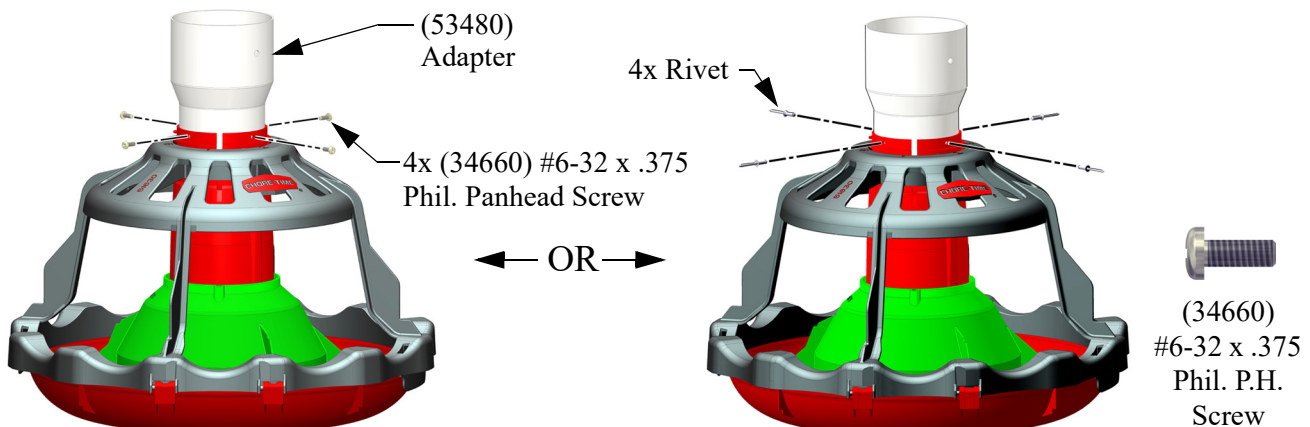

Figure 6. LIBERTY Adapter Installation
4. Attach the Adapter (53480) to the Feed Level Cone with four #6-32x 3/8 Screws (34660), or Pop Rivets as shown in **Figure 6**.